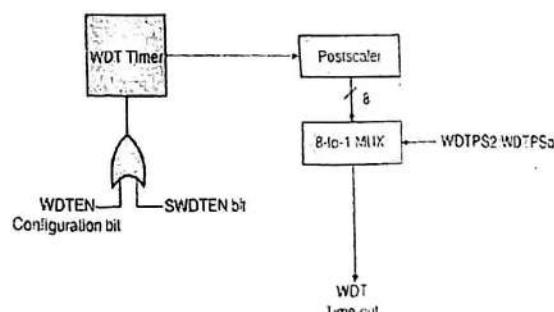

Fig. 1.12.4 : Watchdog timer block diagram
- It runs even if the clock on the OSC1/CLK IN and OSC2/CLKOUT pins of device has been stopped. E.g. execution of SLEEP instruction. Fig. 1.12.4 shows block diagram of watchdog timer.